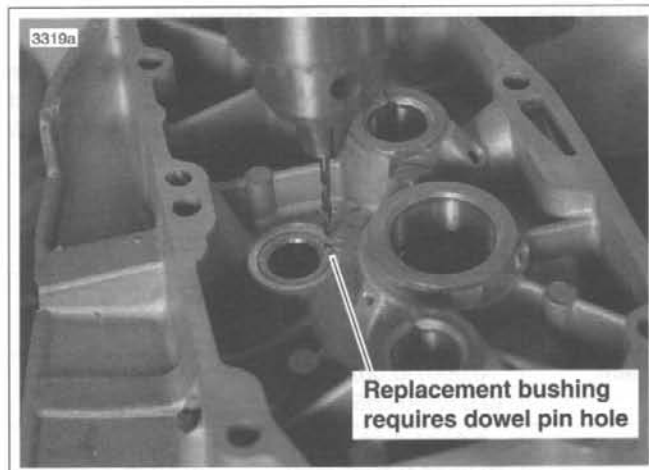

Figure 3-86. Drilling Dowel Pin Hole
2. Although the original pinion shaft bushing is not "pinned," the replacement bushing must be secured, from possible rotation within the cover bore, by installation of a dowel pin. See Figure 3-86. Drill a No. 31 hole, 0.281 in. (7.137 mm) deep, at top side of boss (side toward top of gearcase cover), centering the drill bit on the cover bore circle (hole is drilled half in bushing OD and half in cover bore ID).